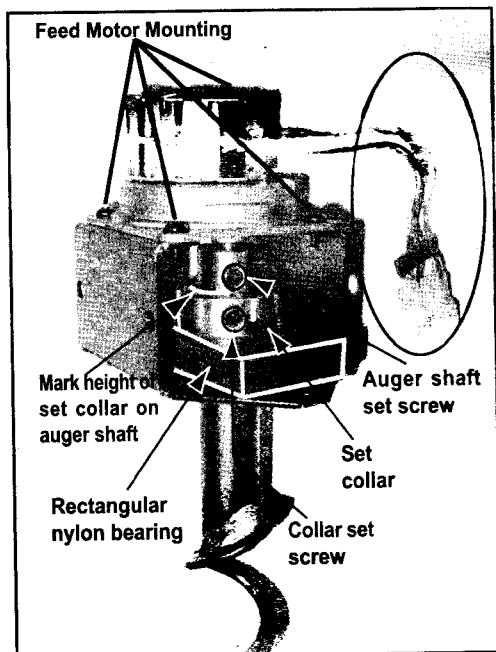

Figure 4
- Loosen set screw that secures auger shaft to feed motor shaft. **Figure 4.**
- First mark the height of the set collar on the auger shaft with a black marker for future reference. **Figure 4.** **Remove** set screw securing auger shaft to feed motor shaft. Only **loosen** set screw in set collar and ensure collar will slide on shaft.
- *Align set collar with reference mark made previously on auger shaft. **Figure 4.** Tighten set screw in collar. Align auger shaft set screw with flat side of feed motor shaft. Hold set collar down, away from motor and tighten auger shaft set screw.
- Attach jumper wire (see page 4) if spade connectors are coming from wire harness on feed motor. Molex connector does not require a jumper. **Figure 4.**
- Attach Molex or spade connectors to the feed motor wire harness, using jumper if needed. **Figure 4.**